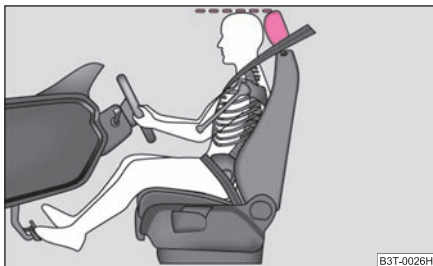

Fig. 146 The correct head restraint adjustment for the driver
- Adjust the head restraint so that the top edge of the head restraint is at the same level as the upper part of your head ⇒ fig. 146.
- Adjust the head restraints so that the top edge of the head restraints are at the same level as the upper part of your head ⇒ page 151, fig. 146.